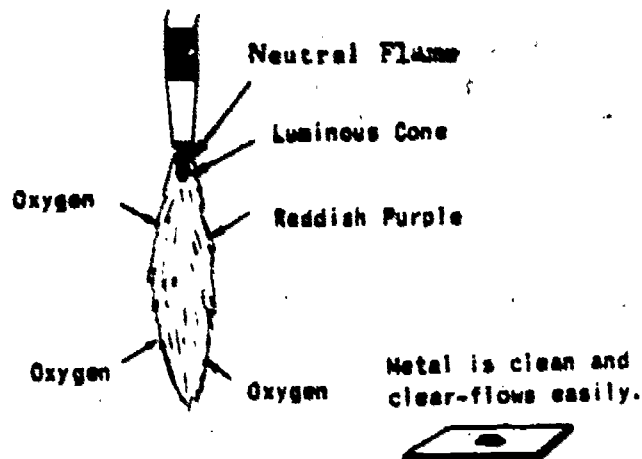

Figure 66. Neutral Flame
**NEUTRAL FLAME.** When the oxygen and acetylene are equally mixed, a neutral flame results (see figure 66). A neutral flame is usually used for welding and cutting.